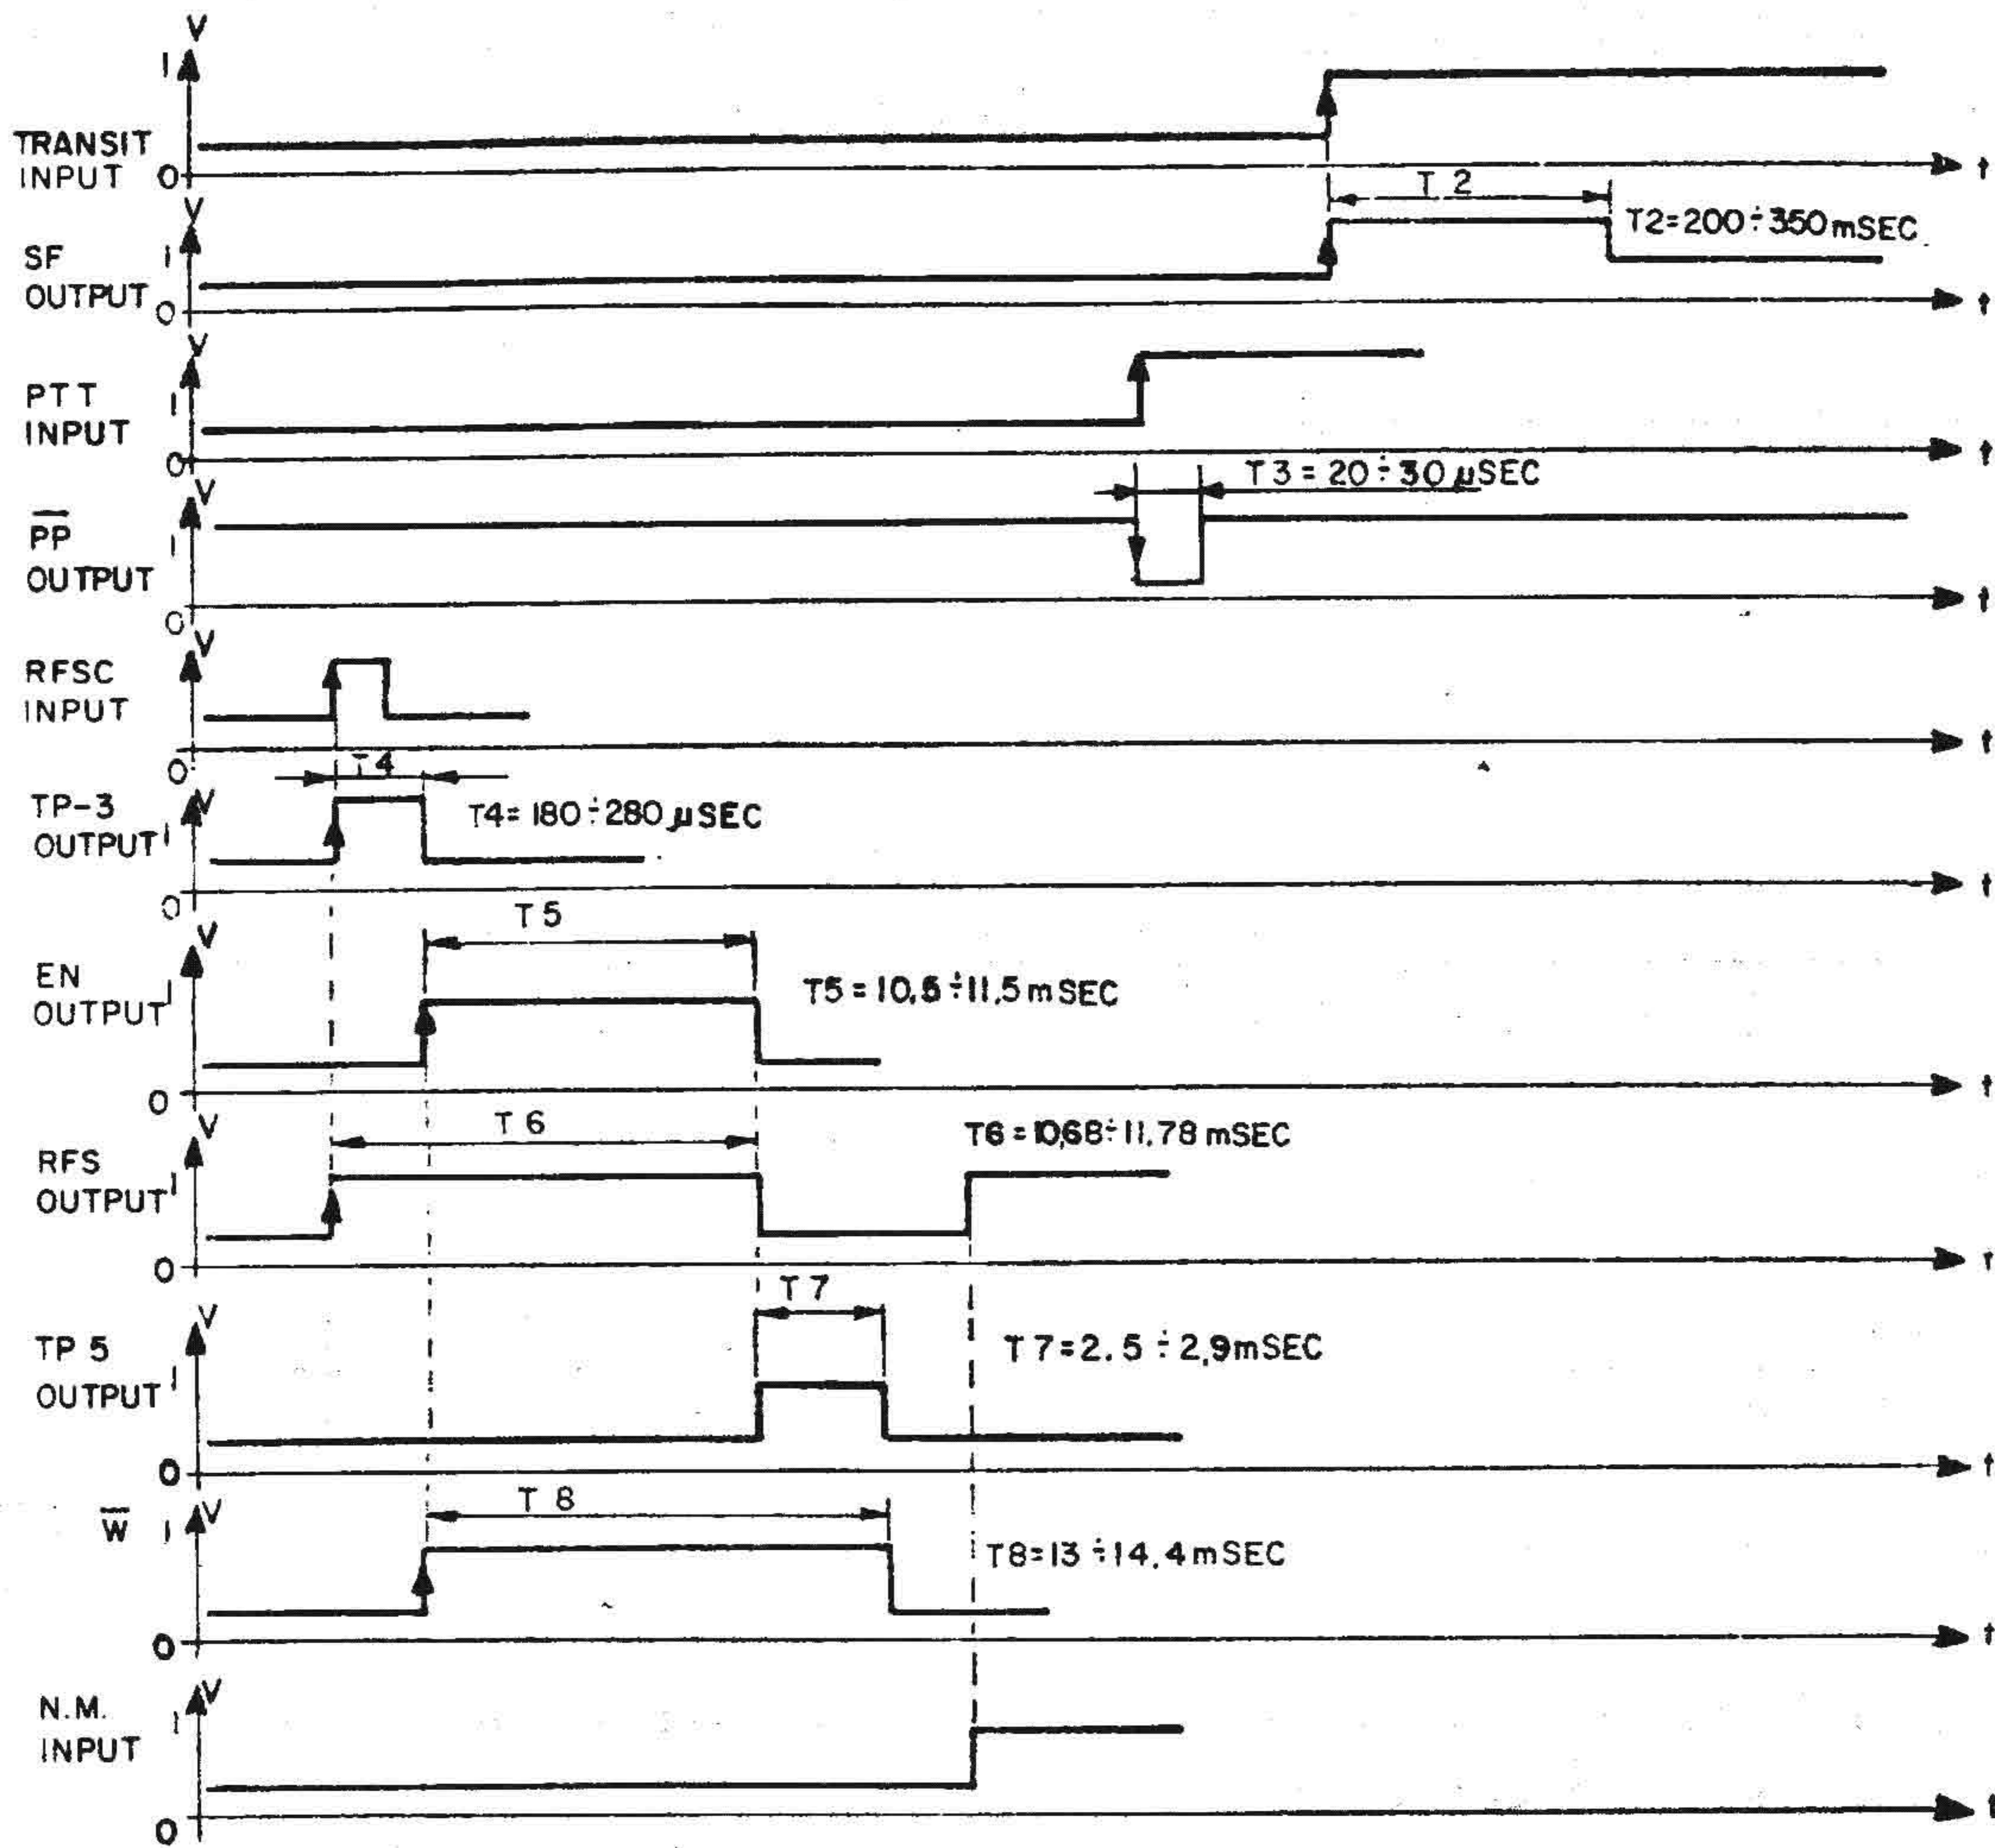

Fig. 2-37. Timer A4, output signals timing diagram
(1) SF pulse generation (fig. 2-37). The SF pulse is generated by the monostable multivibrator U7, when triggered by the high level pulse appearing at the output of U2D when the output level of U2C changes. The output level of U2C depends only on the output level of U2B, because both U2A inputs are internally connected to ground (via resistors). Normally, the output of U2B is low; it rises to a high level in either of the following cases:
(2) \bar{PP} pulse generation (fig. 2-37). The \bar{PP} pulse appears at the output of U1C in the following cases:
Fig. 2-37 shows the pulse timing diagram.